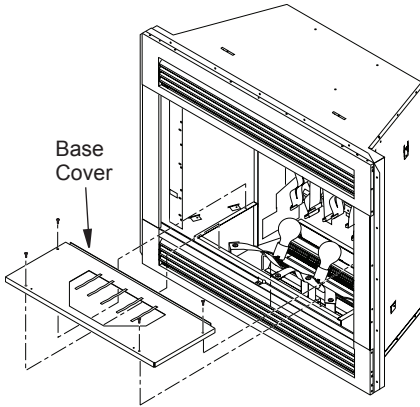

Figure 36 - Removing Base Cover
7. Remove 4 Phillips screws on base cover and lift cover off cabinet base. See Figure 36, page 18.